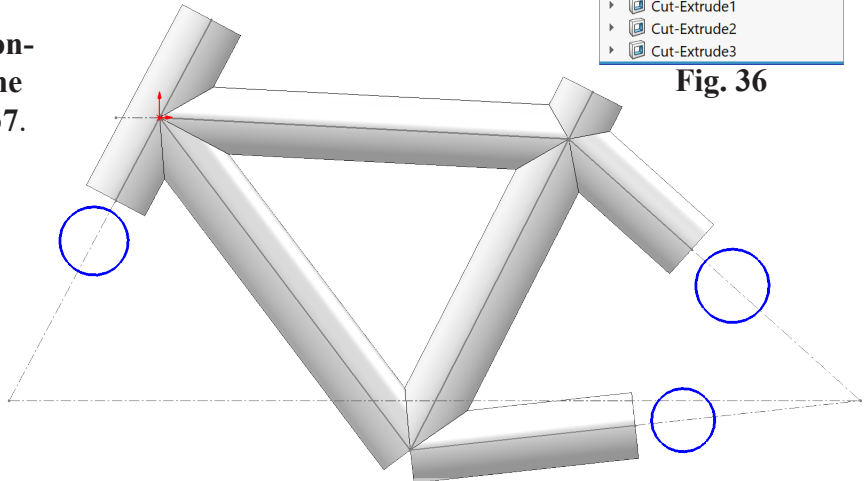

**Fig. 36**
Step 1. Click **Right Plane**  in the Feature Manager and click **Sketch**  on the context toolbar, **Fig. 36**.